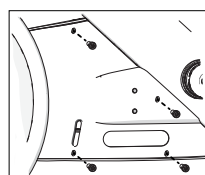

Figure 3
3. Remove the four bolts holding on the back cover and remove it (Figure 3).